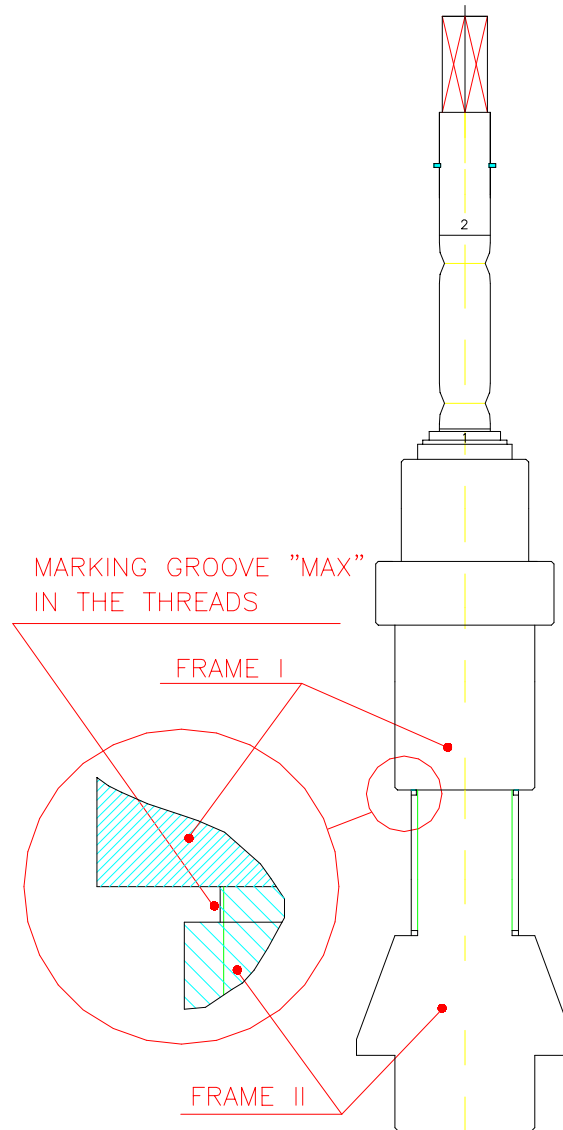

Figure 4
- Check that the edge of Frame I is aligned with the groove on Frame II (see figure 4, the groove is on the threaded area of Frame II). This setup corresponds to the maximum feeding distance. This position must not be exceeded under any circumstances when the tool is pressurized. Make sure that the valve is fully OPEN. Attach the complete tool assembly to the threads on the valve and test that the hole saw can freely slide through the ball in the valve.